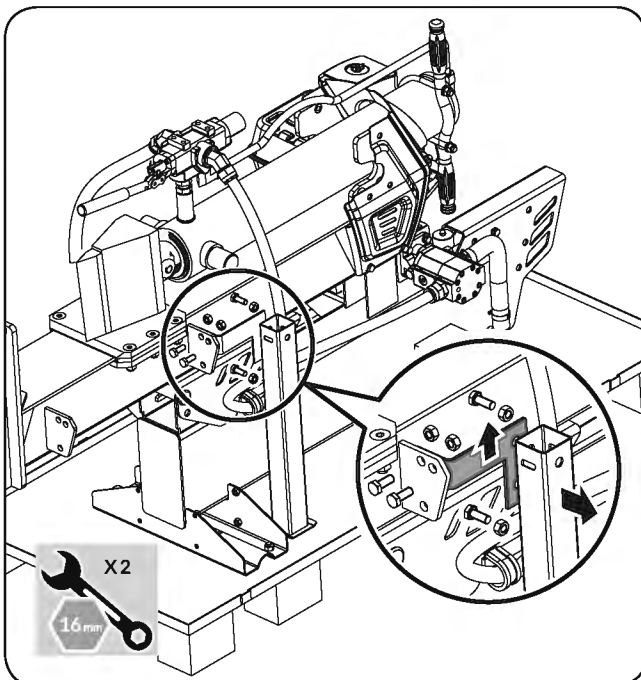

Figure 2c
- Disassemble the support leg from the unit. (Remove the bolts and nuts, see **Figure 2c**.)